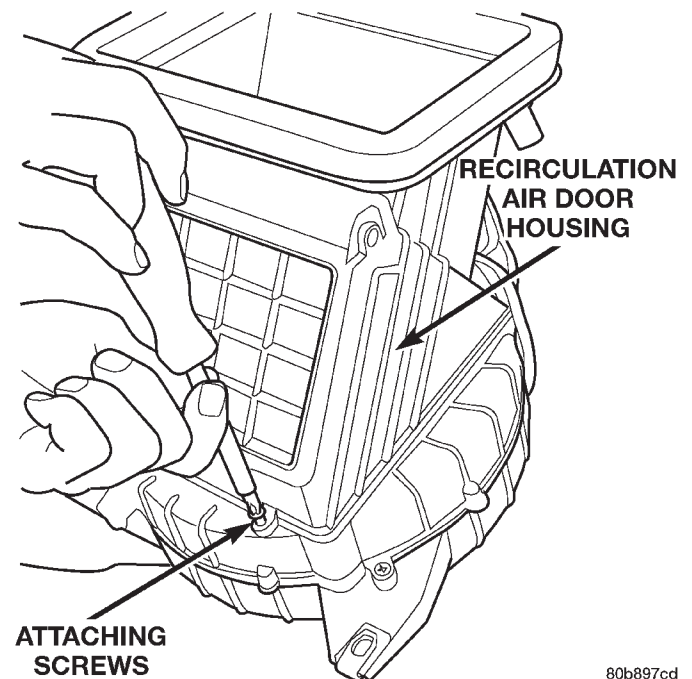

Fig. 67 Recirculation Air Door Housing
(1) Remove the heater-A/C housing from the vehicle. See Heater-A/C Housing in this group for the procedures.
(2) Place the heater-A/C housing right side up on the work bench.
(3) Unplug the wire/vacuum connector from the recirculation air door actuator.
(4) Remove the 2 screws fastening the recirculation air door sub-assembly to the main housing (Fig. 67).